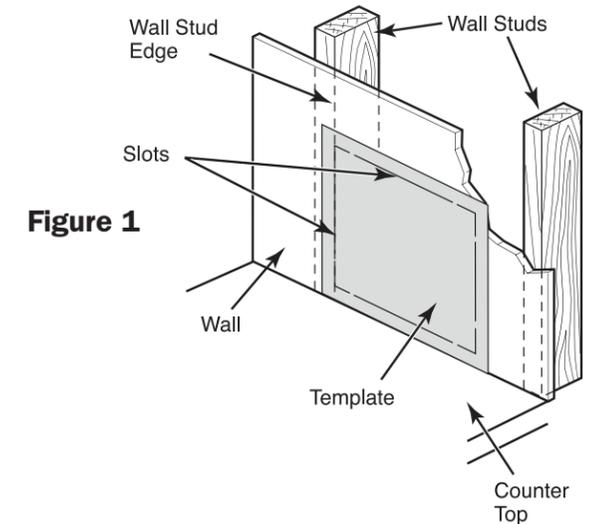

Figure 1
1. Locate **wall studs** within the desired location of **wall**. Using the **template** provided, Place **template** on **wall** as shown. **Slots** in **template** should be flush with left or right side of **wall stud** edge. The **slots** in the **template** designate the area to be cut. The bottom of **template** reflects the bottom of the unit. See **figure 1**.